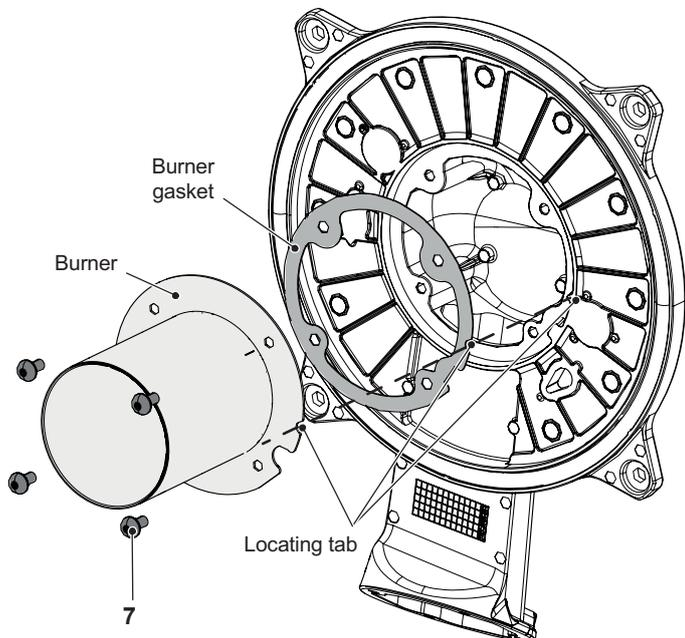

Figure 15.4
- 5 Unscrew the screws "7" (Figure 15.4) and remove the burner.
- 6 Assemble the burner carrying out the removal operation in reverse order. Ensure the burner is correctly located by lining up the locating tab (Figure 15.4).